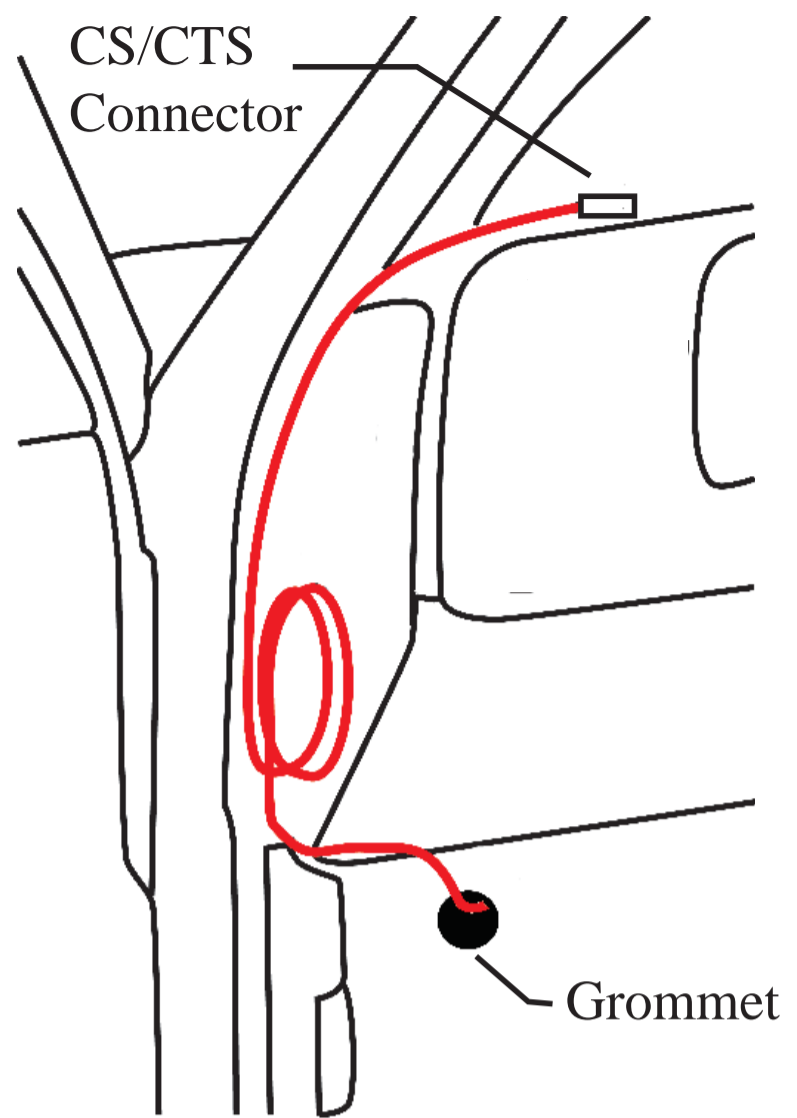

Figure 4 - In Cab Routing
6. Route the cable from below the dash up to the lower left corner of the driver side windshield. (Figure 4)
2. Route the Attitude Connector and remaining cable to the lower left corner of the driver side windshield. (Similar to Figure 4 on previous page) **NOTE: This cable should already be inside the cab and underneath the dash.**